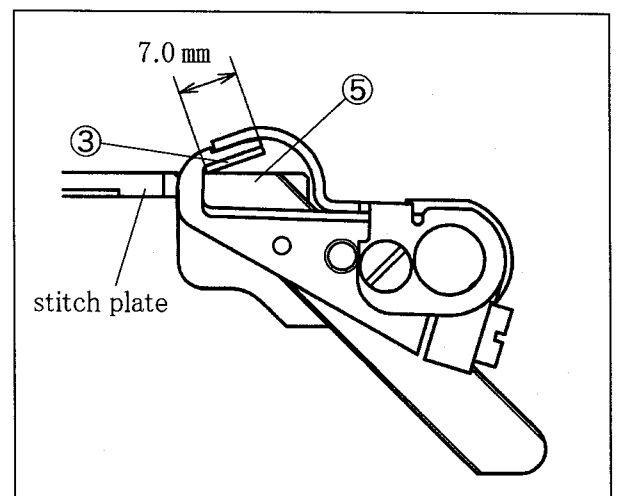
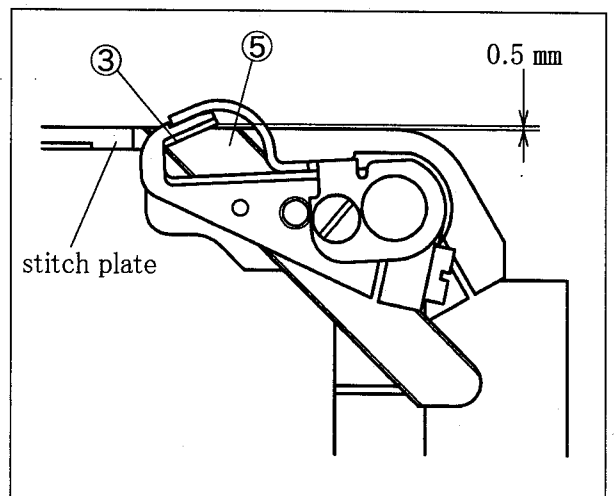

Fig. 86
Fig. 90
- (1) Attach the upper knife ③ to the pin ⑧ in the upper knife holder ④ and tighten the screw ⑦ securely.
- (2) Set the left end of the chip receiver ⑨ fixed on the left of the upper knife holder ④ 1.5 mm apart from the left end of the upper knife shaft ⑩.
- (3) Rotate the handwheel manually to lower the upper knife ③ at the lowest point. Move the upper knife holder ④ to place the upper knife tip 0.5 mm above the top of the lower knife. Then, tighten the screw ⑥ securely.
- (4) Loosen the screw ② on the collar (left) ①. The upper knife ③ touches the lower knife ⑤ with its spring.
- (5) Rotate the handwheel manually to check the sharpness of the blades by setting a thread between the upper knife ③ and the lower knife ⑤.
- (6) Set the top of the lower knife ⑤ 7.0 mm apart from the upper knife ③ tip (at the base of the blade). Then, tighten the screw ② securely. (See Fig. 86)
- (7) Recheck the knives cut properly.
- (1) Loosen the screws ① to remove the bracket cover ② and the bracket cover gasket ③.
- (2) Loosen the nut ⑤ on the upper knife adjusting lever pin ④ to adjust it.
- (3) Tighten the nut ⑤ securely.
- (4) Loosen the screw ⑦ on the upper knife holder ⑥ to tighten it slightly.
- (5) Rotate the handwheel manually to lower the upper knife ⑩ at the lowest point. Move the upper knife holder ⑥ to place the upper knife tip 0.5 mm above the top of the lower knife. Then, tighten the screw ⑦ securely. (See Fig. 90)
- (6) Loosen the screw ⑨ on the collar (left) ⑧. The upper knife ⑩ touches to the lower knife ⑪ with its spring.
- (7) Rotate the handwheel manually to check the sharpness of the blades by setting a thread between the upper knife ⑩ and the lower knife ⑪.
- (8) Set the top of the lower knife ⑪ 7.0 mm apart from the upper knife ⑩ tip (at the base of the blade). Then, tighten the screw ⑨ securely. (See Fig. 86)
- (9) Recheck the knives cut properly.
- (10) Reset the bracket cover ② and the bracket cover gasket ③ with the screws ①.
- (1) Loosen the screws ② on the suction pipe cover ①.
- (2) Move the suction pipe cover ① at the extreme left.
- (3) Tighten the screws ② slightly.
- (4) Open the front cover ③ and side cover ④.
- (5) Loosen two screws ⑥ on the knife drop collar ⑤.
- (6) With an Allen wrench inserted in lower one of screws ⑥, set the convex part of the knife drop collar ⑤ on the concave part of the upper knife adjusting lever ⑦ without clearance between them.
- (7) Tighten two screws ⑥ securely.
- (8) Rotate the handwheel manually to lower the upper knife ⑧ at the lowest point. Check the upper knife ⑧ tip is 0.5 mm above the top of the lower knife ⑨. (See Fig. 90)
- (9) Rotate the handwheel manually to check the sharpness of the blades by setting a thread between the upper knife ⑧ and the lower knife ⑨.
- (10) Reset the front cover ③ and the side cover ④.
- (11) Loosen the screws ②.